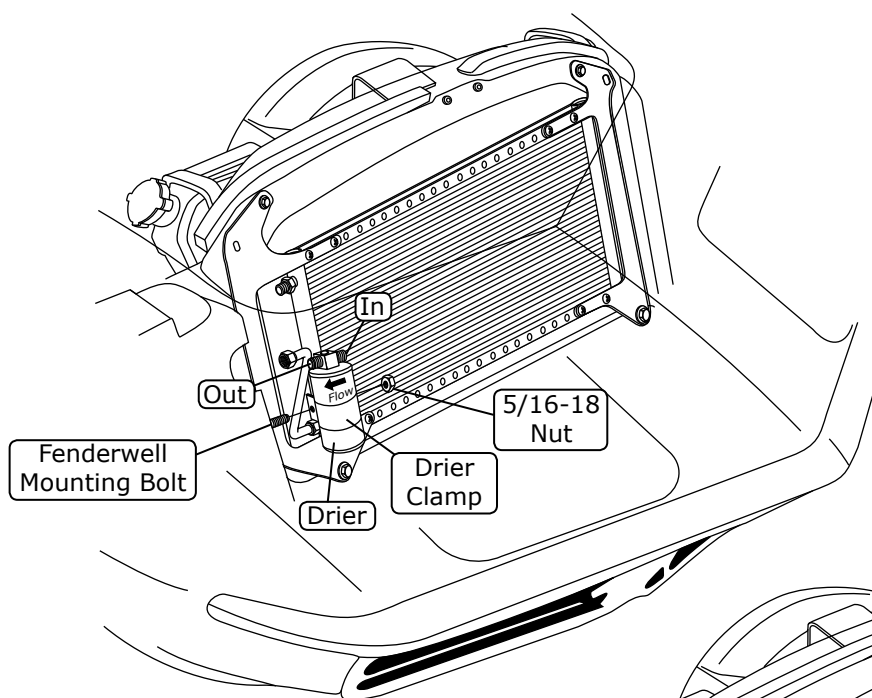

Figure 5
1. Remove the front fenderwell mounting bolt that goes through the core support as shown in Figure 5, below. Replace it with a 5/16-18 x 1 1/4" hex bolt and flat washer.
3. Install the drier onto the fenderwell bolt, and secure using a 5/16-18 nut (See Figure 5, below). **NOTE:** Refrigerant flow through the drier is **IN** from condenser, **OUT** to evaporator. Do not fully tighten the drier mounting bracket nut at this time. Hand tighten only.